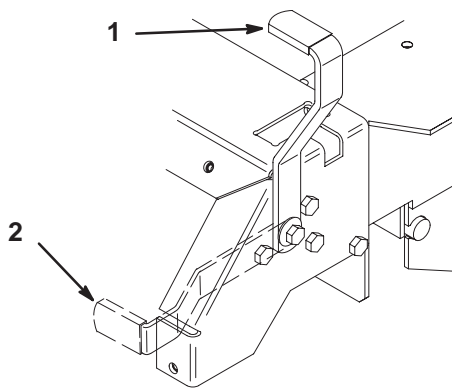

Figure 13
2. Pull back and up on the parking brake lever to set the parking brake (Fig. 13). The parking brake lever should stay firmly in the Engaged position.
Push forward and down on the parking brake lever to release the parking brake (Fig. 13). The parking brake is disengaged.